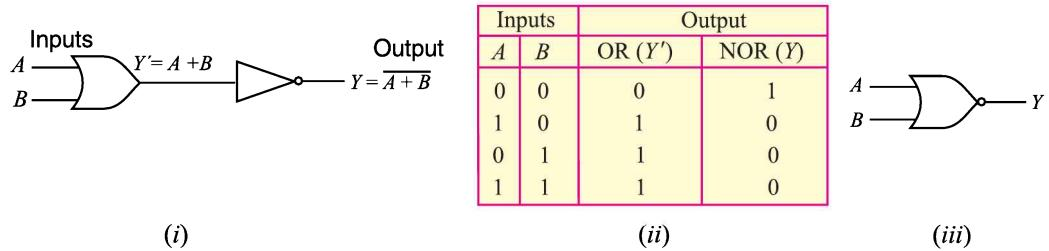

Fig. 26.12
(ii) **NOR gate.** It is a combination of OR gate and NOT gate. In other words, output of OR gate is connected to the input of a NOT gate as shown in Fig. 26.12 (i). Note that output of OR gate is inverted to form NOR gate. This is illustrated in the truth table for NOR gate. It is clear that truth table for NOR gate is developed by *inverting the outputs* of the OR gate.
This Boolean expression can be read as $Y = \text{not } A \text{ or } B$. To perform the Boolean algebra operation, first the inputs must be ORed and then the inversion is performed. Note that output from a NOR gate is high (1) only when all the inputs are low (0). If any of the inputs is high (1), the output is low (0). Fig. 26.12 (iii) shows the logic symbol for a NOR gate. The bubble (small circle) at the Y output indicates inversion.